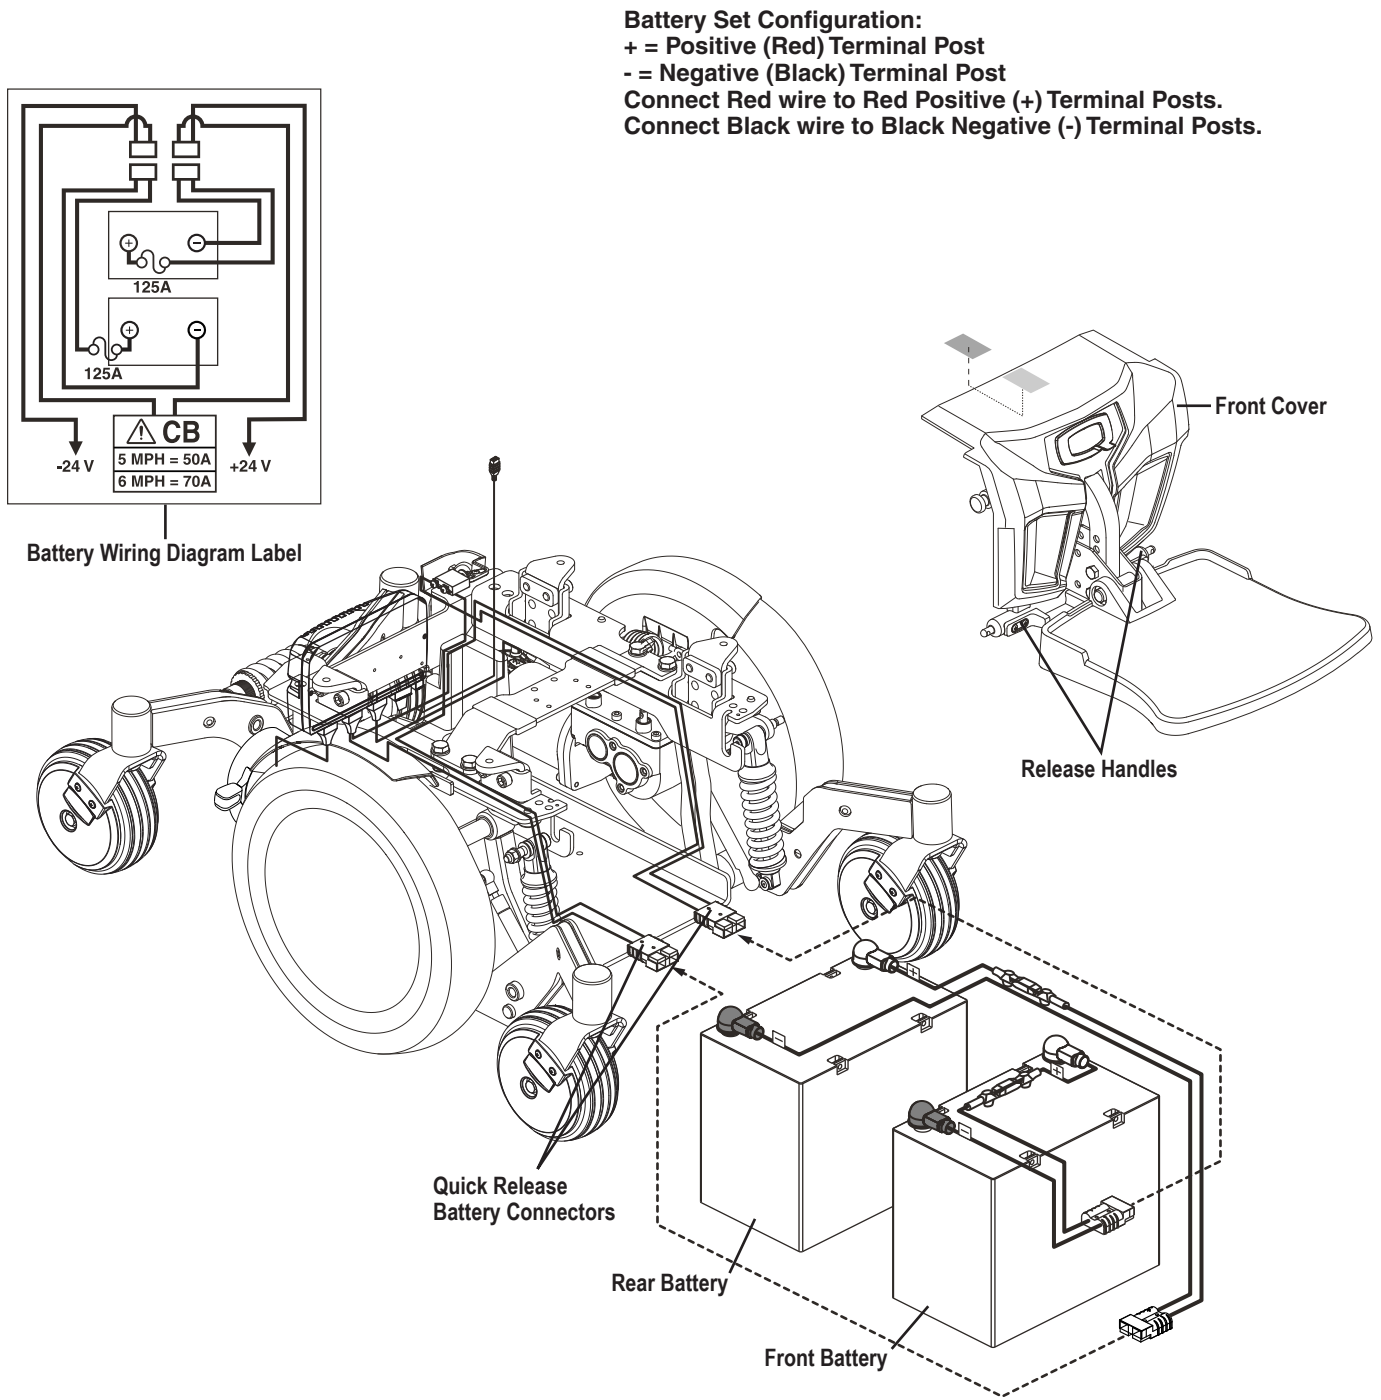

Figure 21. Battery Installation
3. Remove the front cover by squeezing the release handles (**see figure 21**) and lifting the front cover up and away from the power base.
4. Disconnect the quick release battery connectors. **See figure 21.**
7. Connect the battery harness to the new front battery according to the battery wiring diagram. **See figure 21.**
8. Connect the battery harness to the new rear battery according to the battery wiring diagram. **See figure 21.**